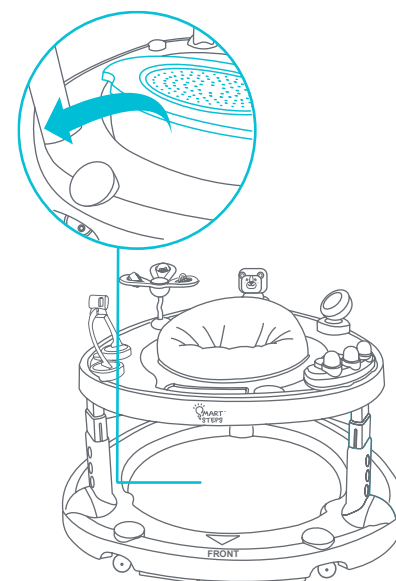

Fig. 11
- To remove, gently lift the walker up, and remove the Air Bouncer Board (Fig. 11).